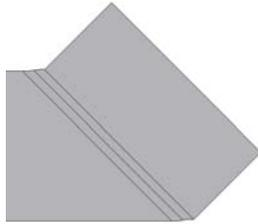

Figure 3
4. Create the Flat Pattern. (See Figures 3 and 4 for results)